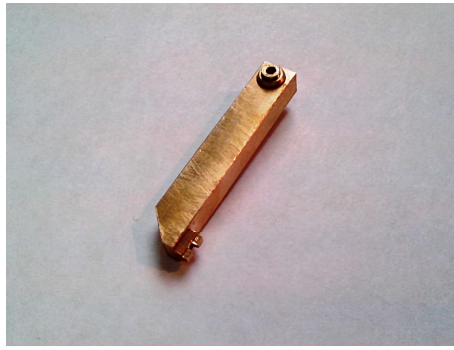

Fig.12. The fork-shaped lever from the maintenance kit.
Contrary to the collimating objective the vertical alignment of the laser beam still remains possible even after demounting of the ECDL from the assembling stand. The horizontal axle (horizontal shaft) of the diffraction grating is gripped by a collet. The collet closes or opens when the vertical lock-screw (pos.5) is turned clockwise or counter-clockwise respectively. The slightly asymmetrical grip of the horizontal axle in the collet rotates the axle when the screw locks the collet. Typically clockwise rotation of the lock-screw moves the laser beam up; counter-clockwise rotation moves the beam down. **Do not rotate the lock-screw more than a quarter of a turn!** Otherwise it might be broken or the horizontal axle might be completely released. If more beam shift is necessary, then the fork-shaped lever from the maintenance kit (Fig.12) must be used. It can be inserted into the slot of the shaft butt-end and fixed by M1.6 screw. The horizontal shaft rotates freely when the lock-screw is loosened. One can tight the lock-screw after alignment taking into account the above mentioned axle rotation during tightening.